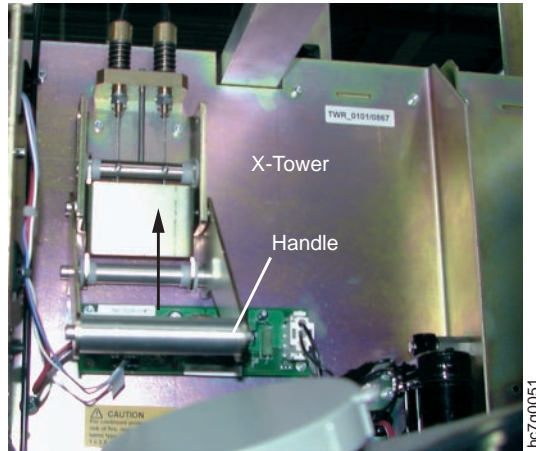

Figure 288. Unlatching the X and Y Towers
4. Unlatch the X tower from the Y tower by pulling up on the handle located on the X tower, as shown in Figure 288 on page 314.